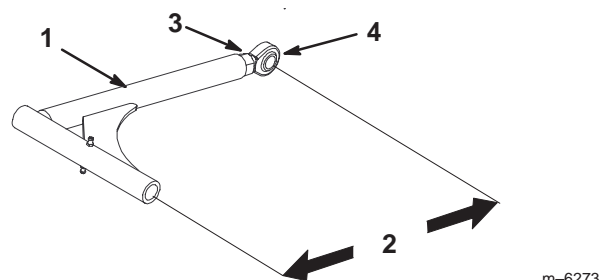

Figure 64
1. To adjust the push arms, loosen the jam nut and rotate the ball joint counterclockwise, one turn at a time.(Fig. 64).
2. Adjust each side the same amount. Each push arm should have a nominal length of 15-5/16 inch (389 mm) (Fig. 64).